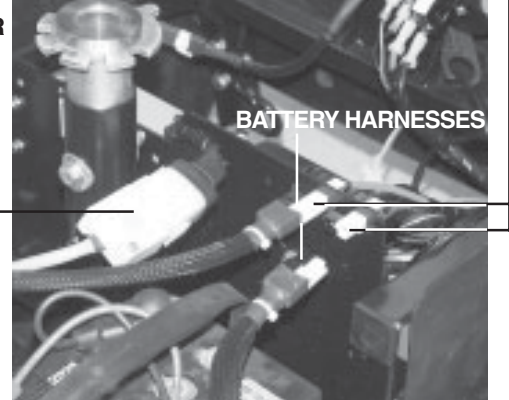

Figure 12A. Disconnect Battery Harnesses
5. Disconnect the battery harness from the battery mating plug. See figure 12A.
11. Reconnect the battery harness to the battery harness mating plug. See figure 12A.